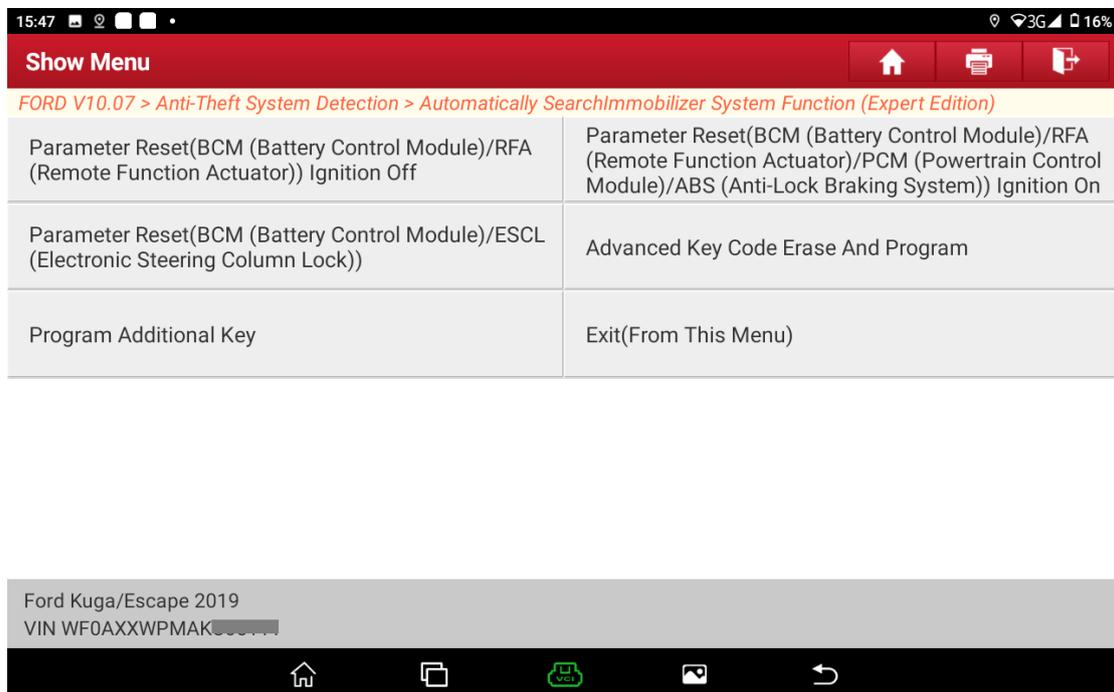

Figure 10
8. Choose [Parameter Reset (BCM/RFA/PCM/ABS) Ignition On]. See Figure 10.